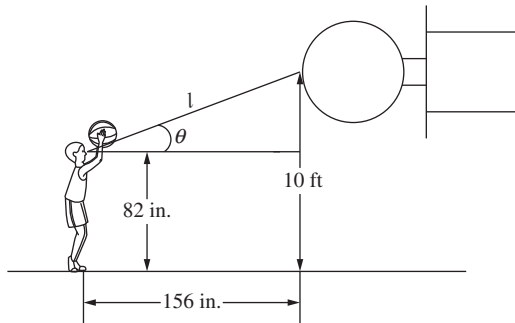

Figure P3.2 A basketball player in front of the basketball hoop.
- 3-2.** The eyes of a 7 ft 4 in. player are 82 in. from the floor, as shown in Fig. P3.2. If the height of the basketball hoop is 10 ft from the floor, find the distance l and angle θ from the player's eye to the hoop.